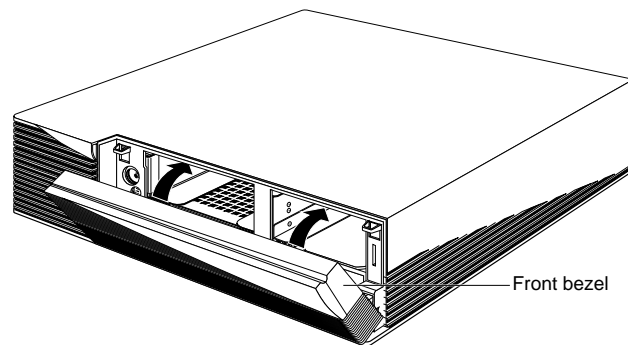

Figure 2-6 Replacing the Front Bezel on the Indigo² Chassis
- Place the tabs on the bottom of the cover in the grooves in the front of the chassis, as shown in Figure 2-6.